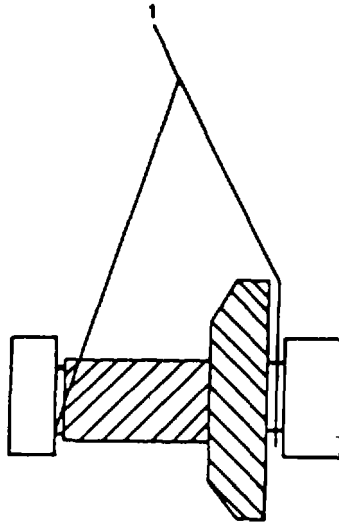

FIGURE 4-31. *Lifting Points Intermediate Speed Pinion.*
e. Intermediate Speed Pinion. (FIGURE 4-31)
- (1) Attach lifting sling (1) to lifting points on intermediate speed pinion.